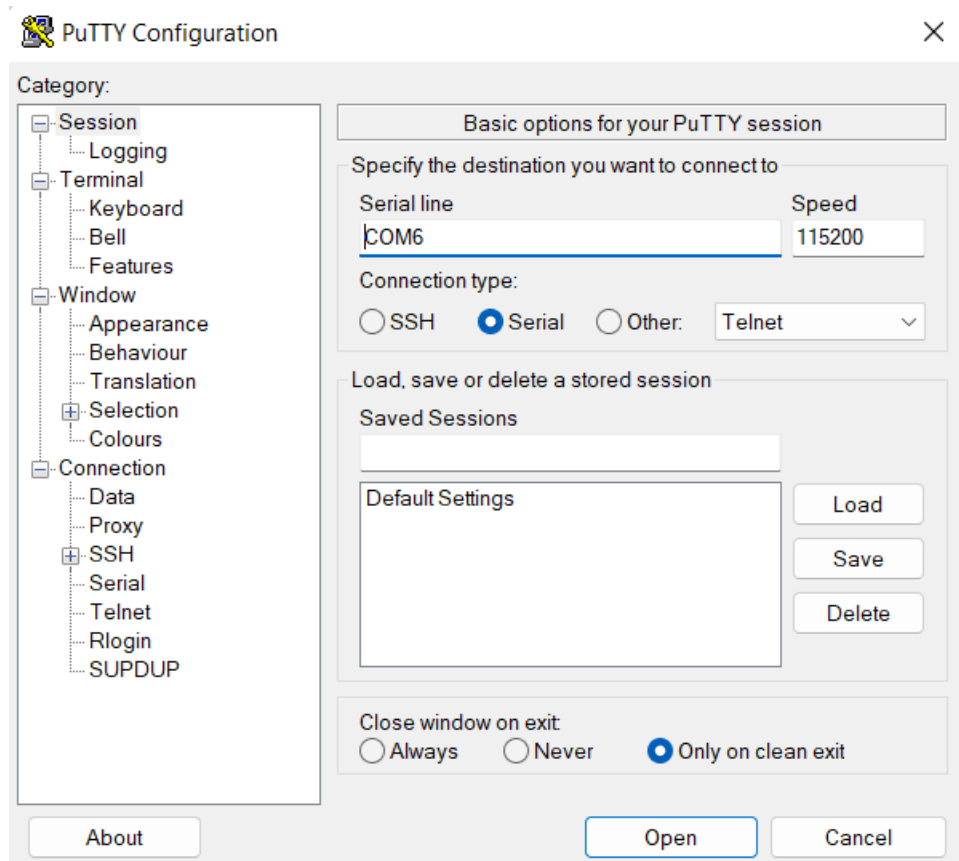

Figure 4.1. PuTTY Configuration Window- Port Selection
2. On opening PuTTY, the app asks for connection type and speed as shown in Figure 4.1. Select Connection Type as **Serial**, enter the appropriate serial port and set the speed to **115200**.